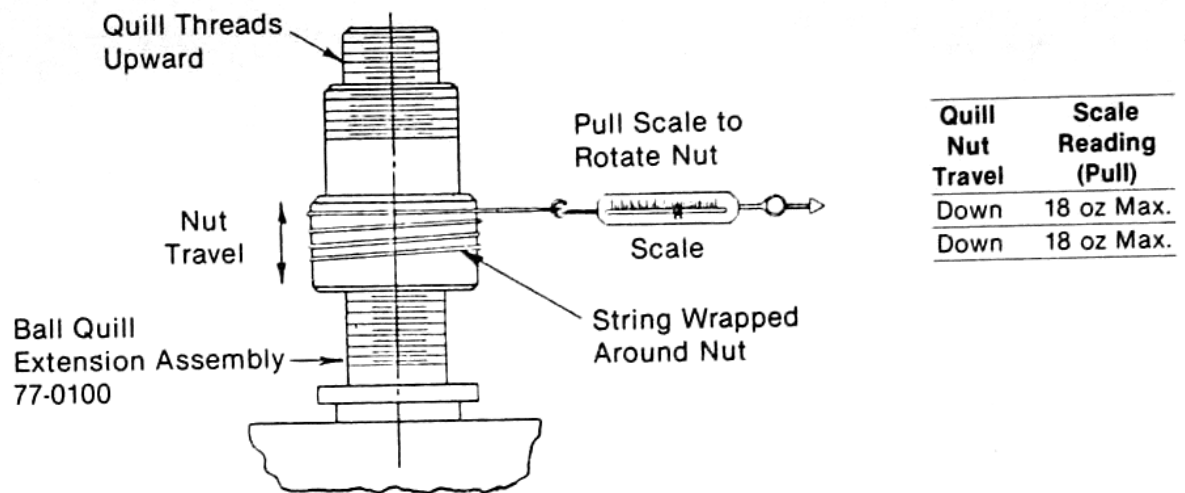

Figure 11-4 Ball Quill Extension Torque on Nut Setup
11.8.1 Ball Quill Extension Preload Torque on Nut—Figure 11-4